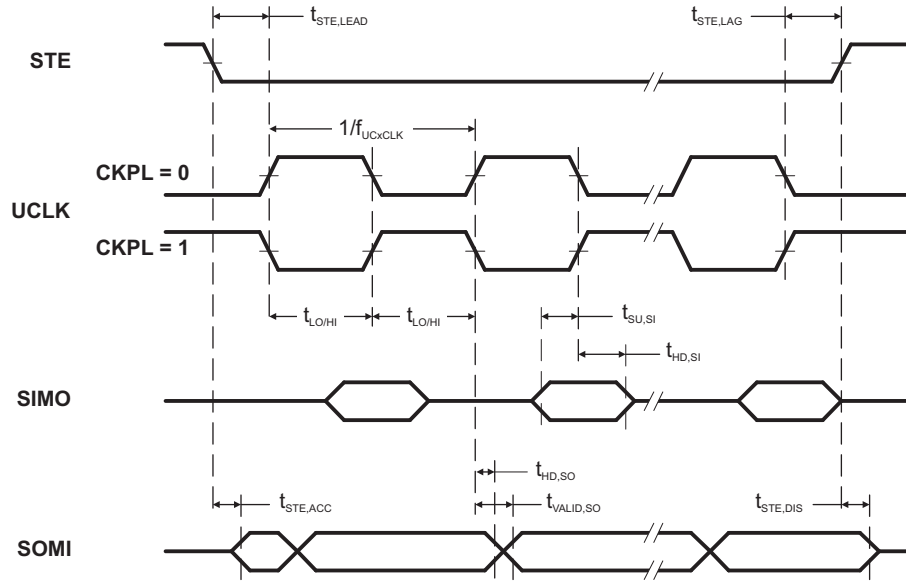
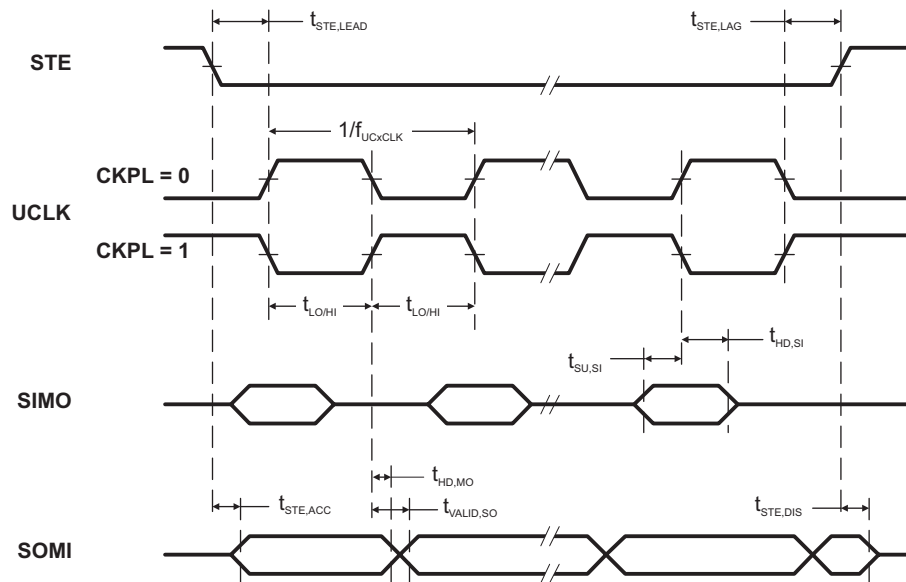

Figure 5-13. SPI Slave Mode, CKPH = 0
Figure 5-14. SPI Slave Mode, CKPH = 1
(see Figure 5-13 and Figure 5-14)
- (1) $t_{UCxCLK} = 1/2t_{LO/HI}$ with $t_{LO/HI} \geq \max(t_{VALID,MO(Master)} + t_{SU,SI(USCI)}, t_{SU,MI(Master)} + t_{VALID,SO(USCI)})$. For the master parameters $t_{SU,MI(Master)}$ and $t_{VALID,MO(Master)}$, see the SPI parameters of the attached slave.
- (2) Specifies the time to drive the next valid data to the SOMI output after the output changing UCLK clock edge. See the timing diagrams in Figure 5-13 and Figure 5-14.
- (3) Specifies how long data on the SOMI output is valid after the output changing UCLK clock edge. See the timing diagrams in Figure 5-13 and Figure 5-14.